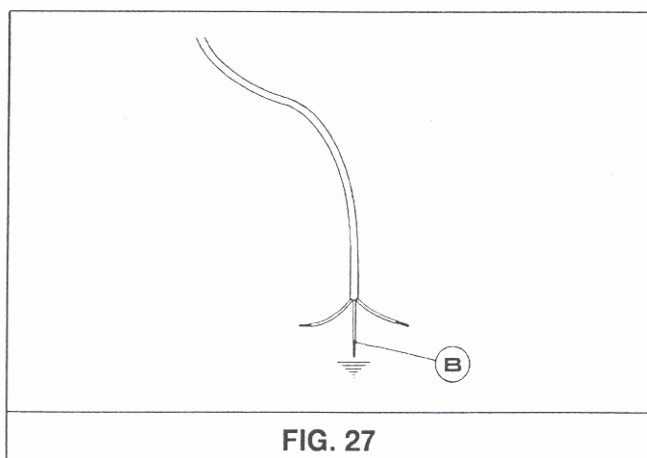

FIG. 27
*If the power supply cable is replaced, the installer should leave the ground wire longer than the phase conductors (fig. 27) and comply with the recommendations given in paragraph 7.*